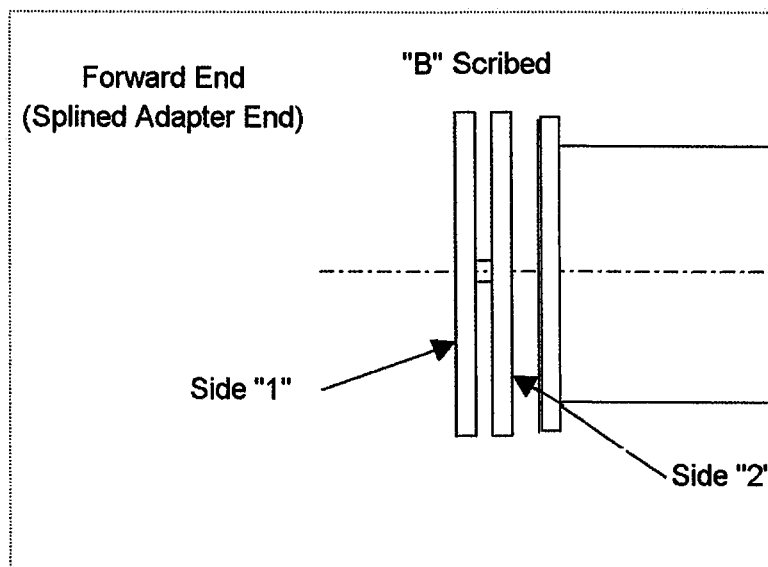

Figure 13 - Forward End Bolt Layout for Sub Assembly Balance
- a. Install bolts (Items 4 and 12) into forward flexible coupling (Item 2) using the installation procedure from section E.2. Note the flexible coupling is marked with an ink marker (Side "1 & 2"). Refurbisher shall provide needed balance tooling. (*See Figure 13*). Depending on technique used to rigidize and align flexible coupling flanges, the larger bolt (Item 12) may or may not be installed at this time.